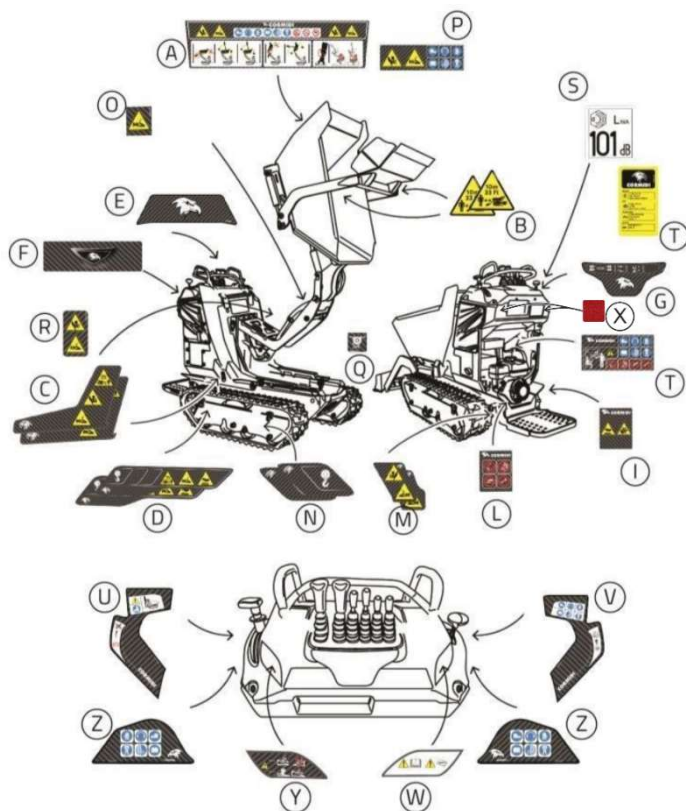

fig. 2.1 – Location of Safety Labels
**READ CAREFULLY:** During the design phase, every effort was made to prevent possible accidents; however, where this was not technically feasible, specific pictograms were used to highlight potential and imminent risks. Special stickers with signals and descriptions associated with pictograms were created to emphasize possible dangers, in accordance with the UNI 9244-95 (E) standard (see fig. 2.1).